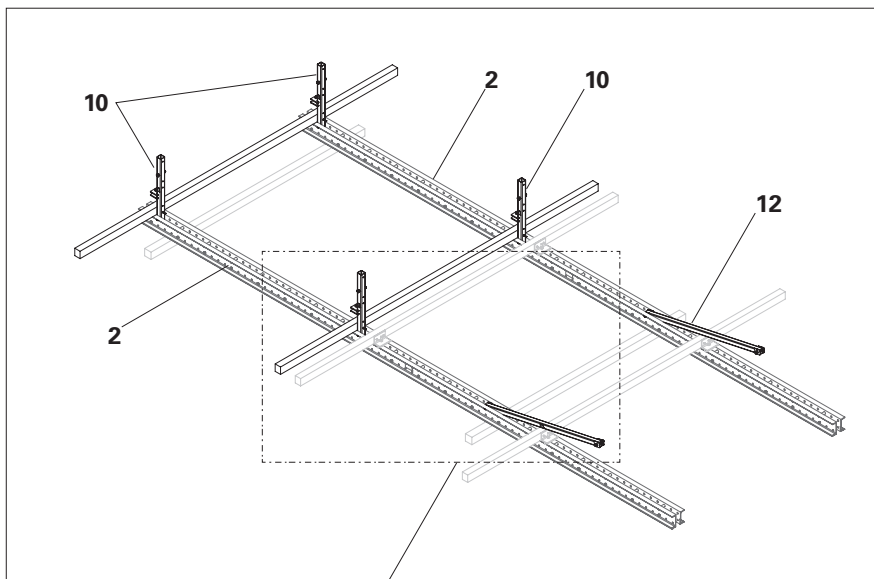

Fig. C1.07
- (Fig. C1.07 + C1.07a)
(Fig. C1.07)